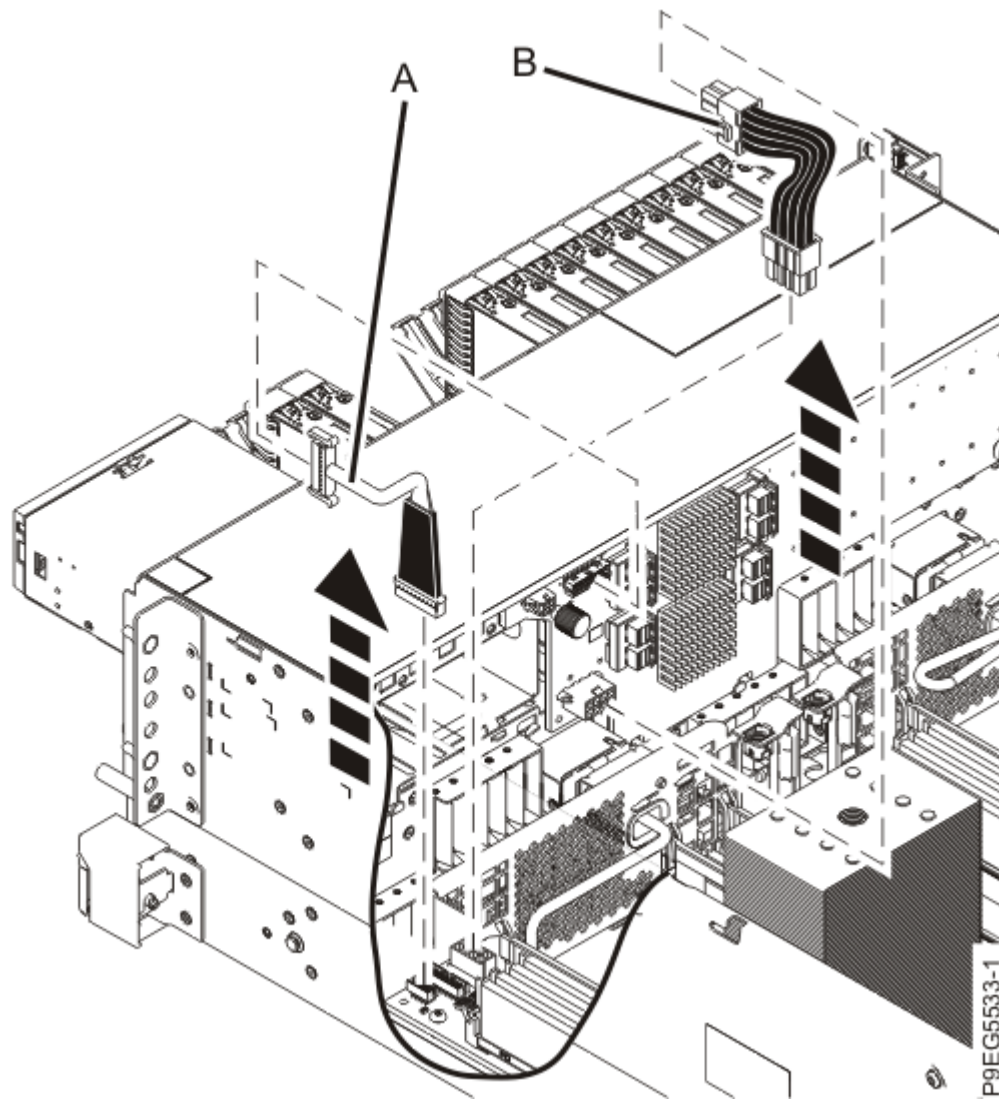

Figure 125. Disconnecting the signal cable and power cable
3. Label and disconnect the power cable (**B**) from the drive backplane as shown in Figure 125 on page 140.